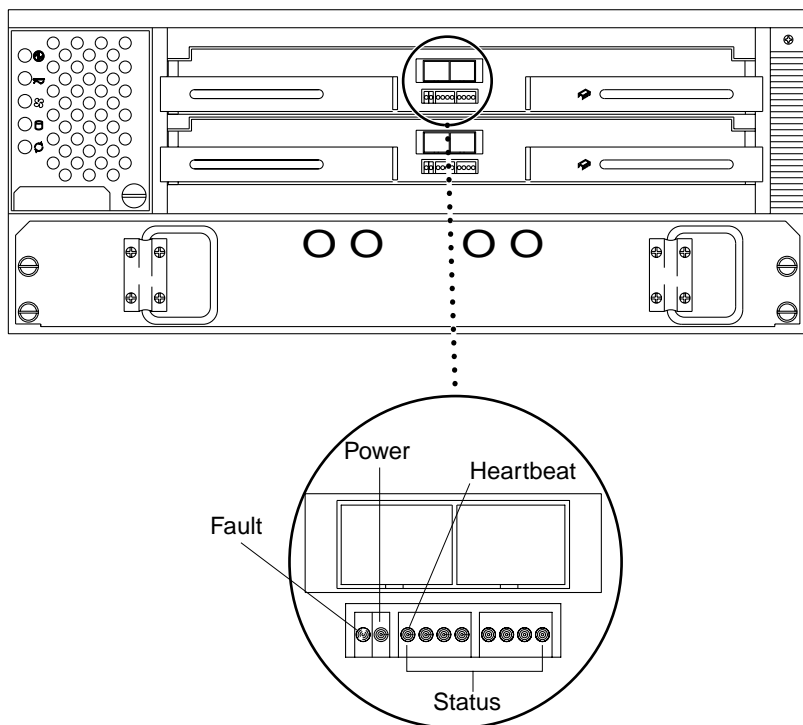

FIGURE 4-2 Controller LEDs (Front View)
2. Check the LEDs on both controllers (FIGURE 4-2).